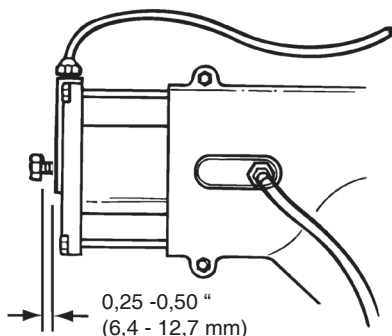

Figure 11.8
- B. Turn the capscrew to the right until the head is approximately 0.25- to 0.50-inch (6.4 to 12.7 mm) from the cylinder. The capscrew is now in the service position and the shift collar is locked or engaged. Figure 11.8. When turning the capscrew you will feel a small amount of resistance. This is normal.